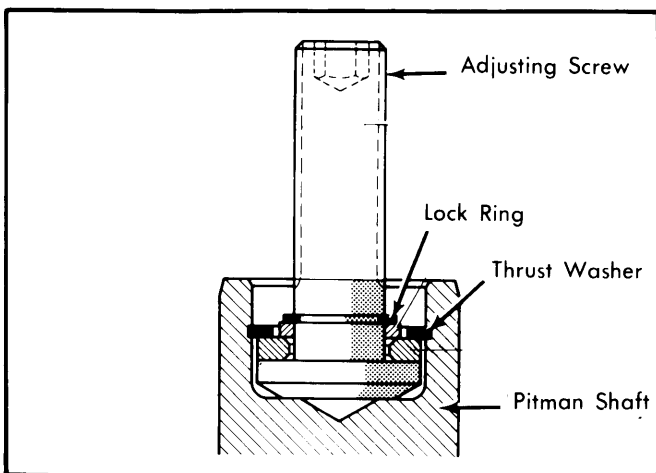

Fig. 2 Sectional View of Adjusting Screw
2) With steering in center position, turn adjusting screw clockwise. This forces pitman shaft, with housing, from steering gear case. Remove pitman shaft with cover. Remove "O" rings from cover. Remove lock ring and seal ring. Remove lock ring from pitman shaft and remove adjusting screw with thrust washers See Fig. 2.